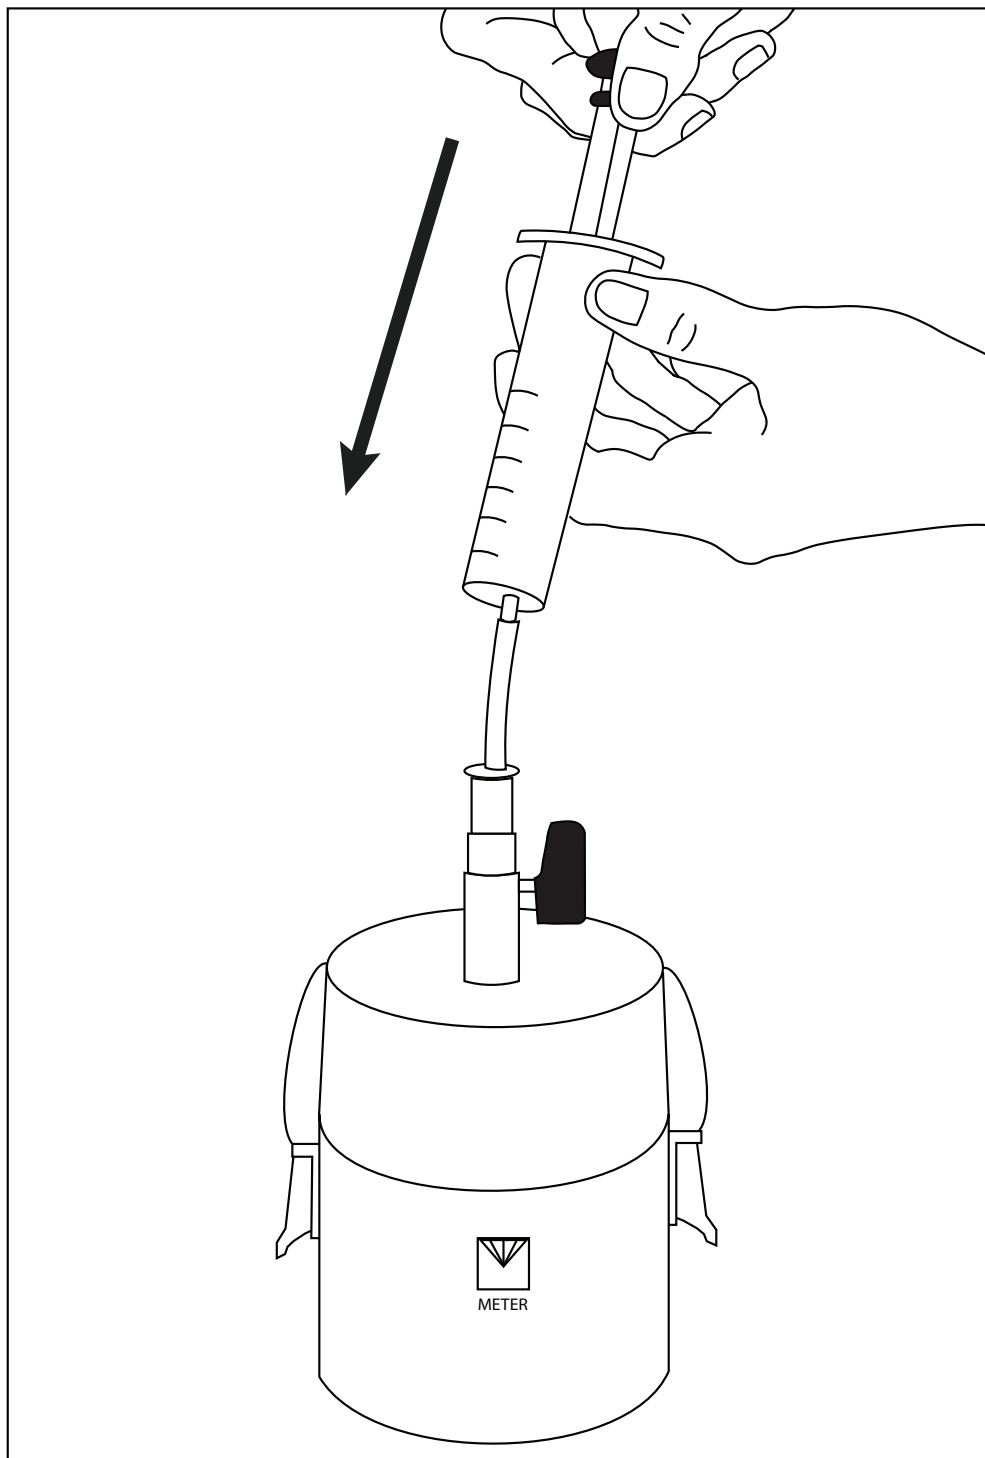

Figure 18 Release the plunger
12. Press in the plunger stoppers and let the plunger slowly move forward (Figure 18).